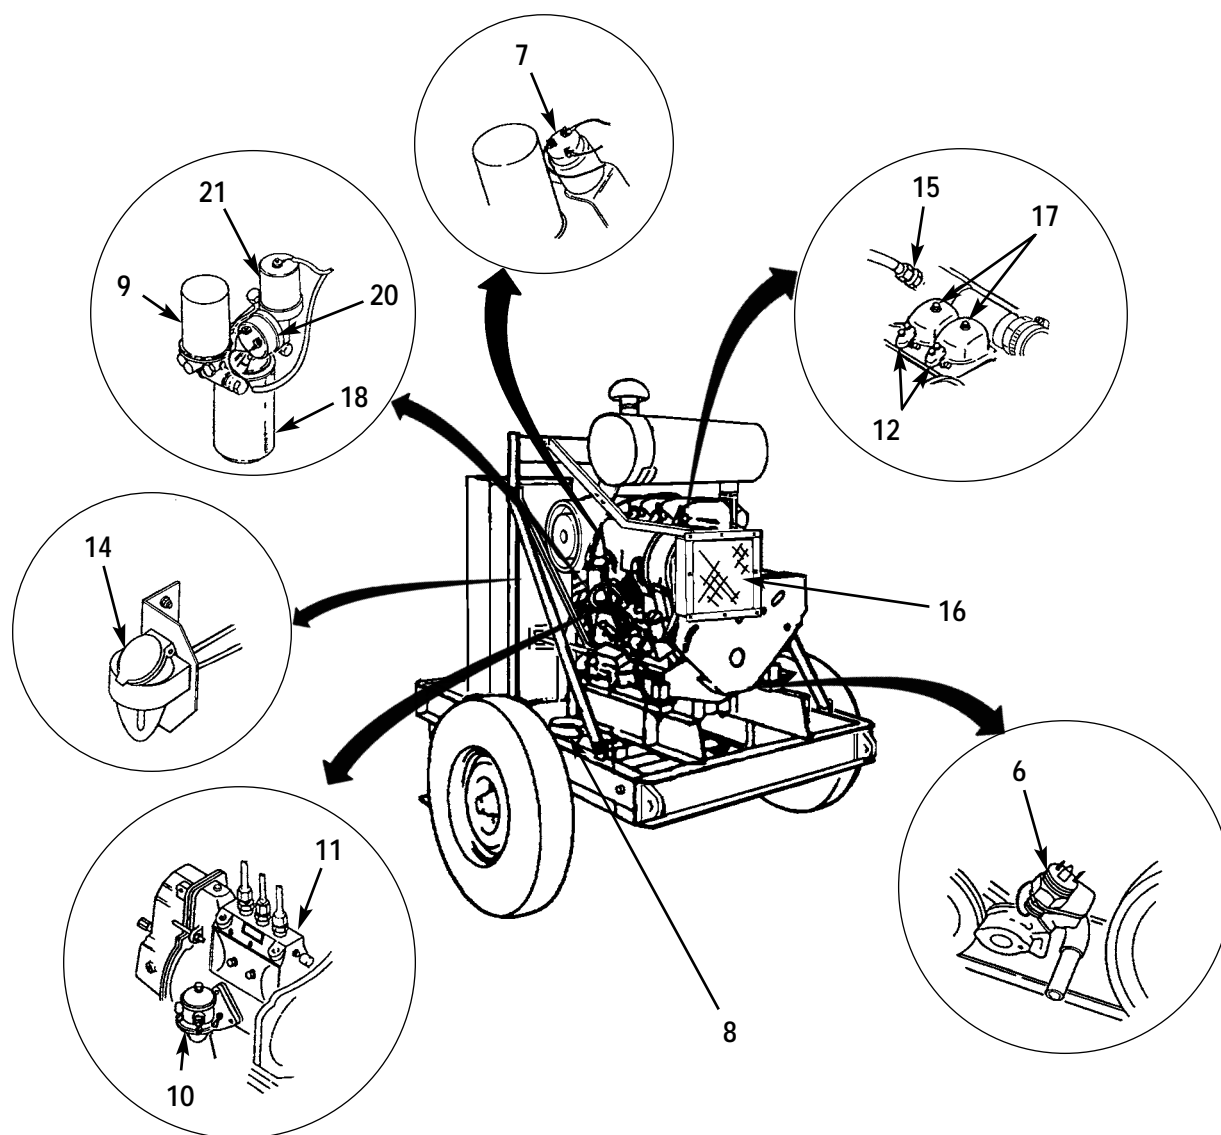

Figure 4-1. PMCS Locations (Left Side View).
- c. Items to be Inspected Column. This column lists the part or group of parts to be checked and serviced. These parts are identified in figures 4-1 and 4-2.